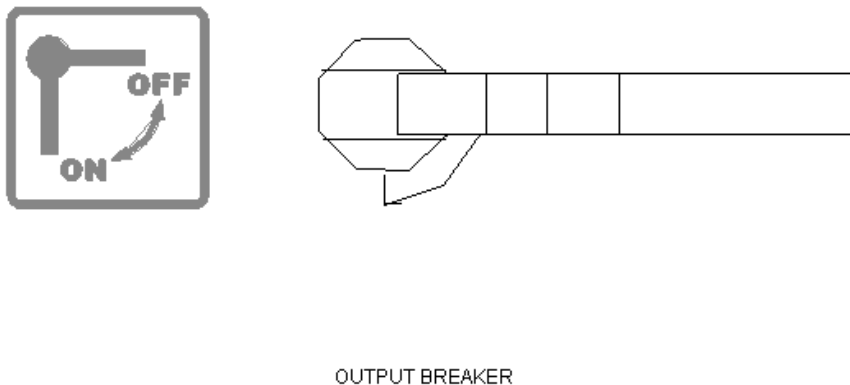

Fig.10.3
4. Turn the UPS output breaker to the position of OFF (Fig.10.3)。